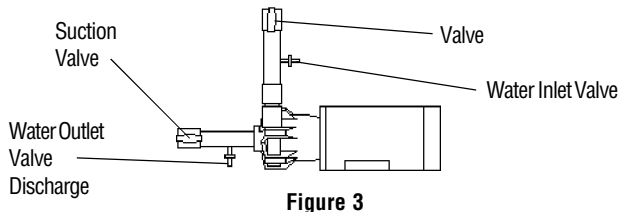

Figure 3
- When pumping liquids which may solidify or crystallize, a flush system should be added to the piping. See Figure 3. Install water inlet and outlet valves as shown.